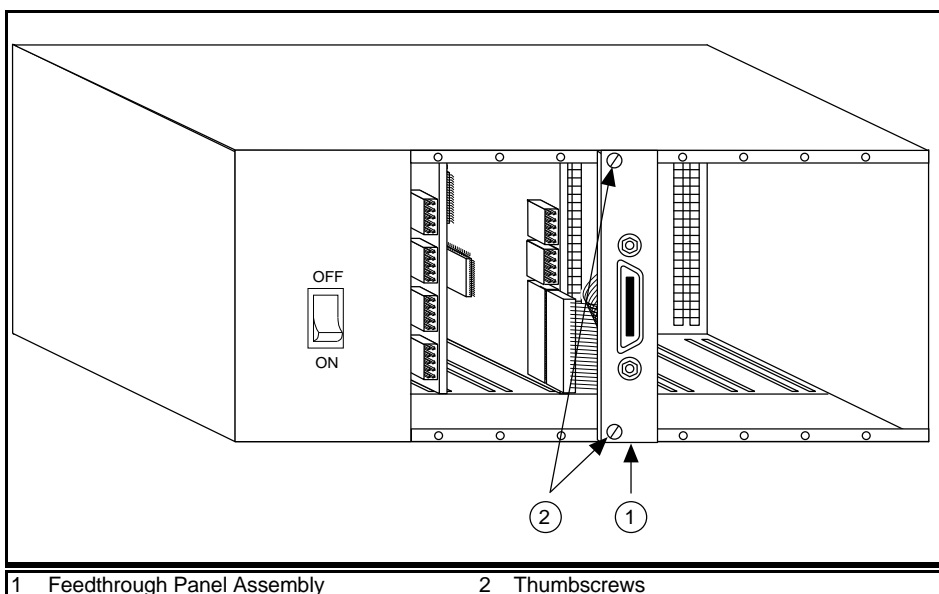

Figure 2-2. Completed Installation for the STD-GPIB
6. Check that the installation resembles Figure 2-2.